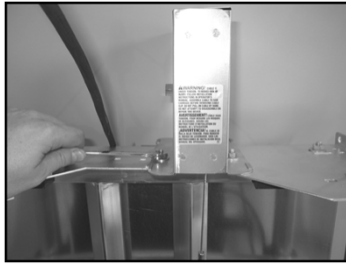

Figure 11: Attaching Counterbalance
2. Set the Counterbalance on top of the tool frame, **slightly off-center to the right**, so that the cable is aligned vertically with an oval hole near the top/right of the Saw Carriage (Fig.11 & 12). **NOTE: Do not mount the Counter balance in the center holes.**